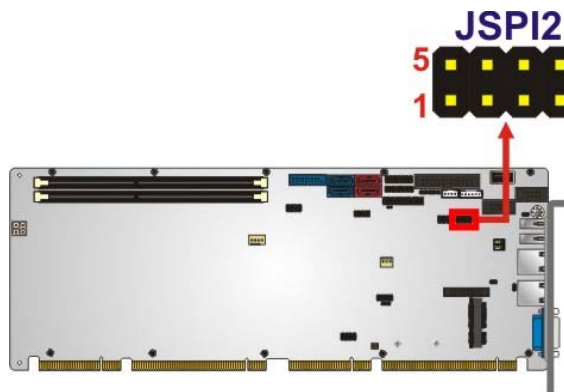

Figure 3-25: SPI EC Flash Connector Location
3.2.24 SPI Flash Connector (EC)
- CN Location:** See **Figure 3-25**